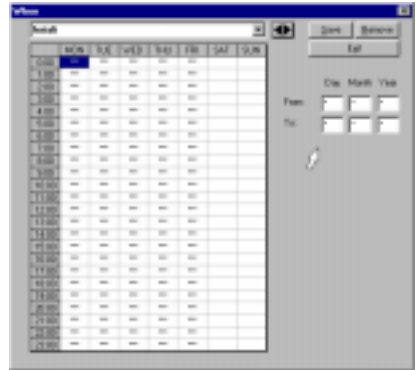

Figure 29: scheduler time band
With reference to the Fig. 27, by pressing the button B relative to the *While* ⑤ time bands (Fig. 27), it is possible to select the time that the action(s) will be taken. In Fig. 29, the time slots are selected from Monday to Friday and 24 hours a day. Also, it is also possible to give a name to the selection. Moreover, it is possible to select the period (see the arrow on Figure 29).
2. the action can also be executed in the selected time slot(s) without the selection of any "alarm set" (for example, by selecting in Fig. 29 that time slot on Friday at 18.00 and the proper action(s) has been selected, the selected action will be executed without any alarm).